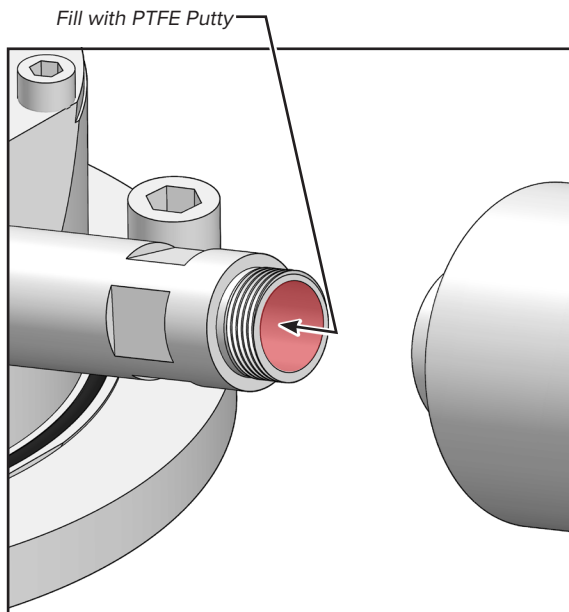

FIGURE 26
4. Fill the empty booster pipe with PTFE putty or replace empty booster pipe with new pre-filled one (figure 26).